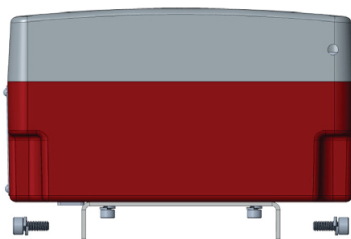

Fig. 12
5. Insert a wire for earth ground under the grounding bracket (see Figure 12) and screw it down tight.